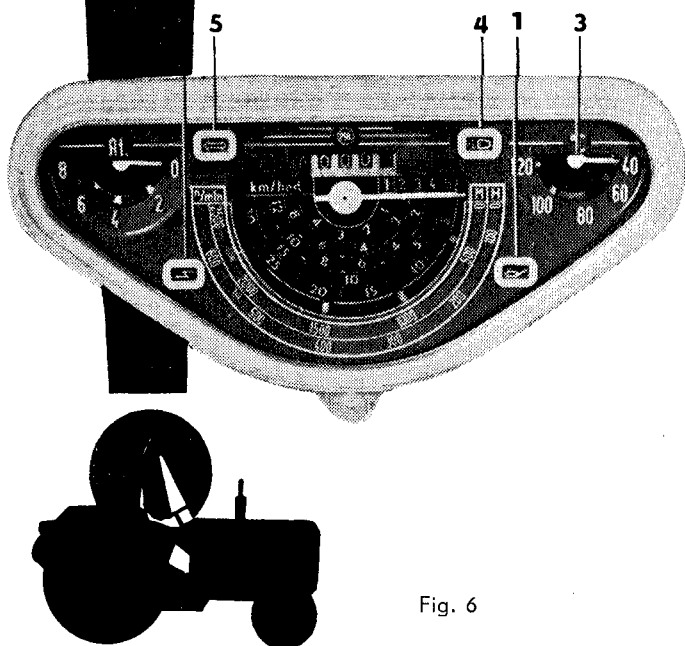

Fig. 6
- the pilot lamp of engine lubrication — green colour (Fig. 6/1);
- the charging pilot lamp — red colour (Fig. 6/2);
- the water thermometer (Fig. 6/3) — the most advanced engine operation temperature is within the
The pilot lamp of the direction indicator (Fig. 6/5).
The pilot lamp of the distance lights (Fig. 6/4) — it lights up when the distance lights are switched on.